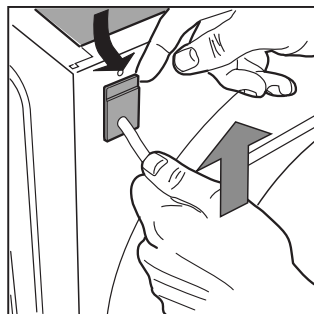

Fig. 11
- Move the upper part of the cord lead slightly away from the back panel, pull the power supply cable upwards and then remove it (Fig. 11).